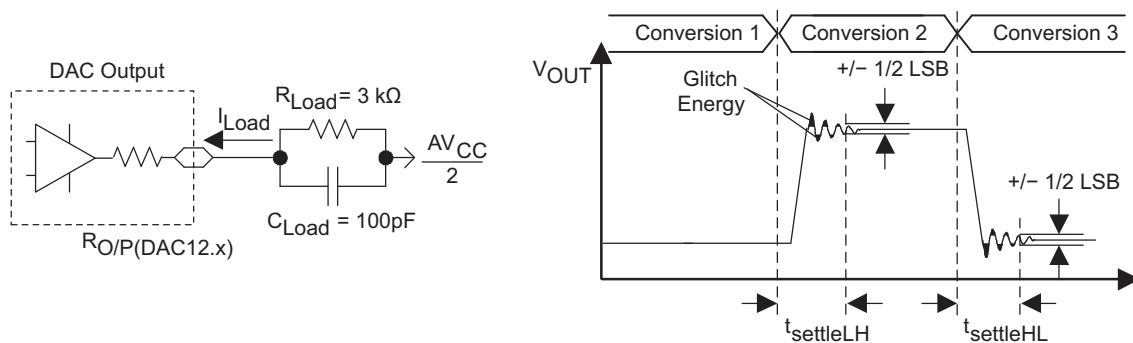
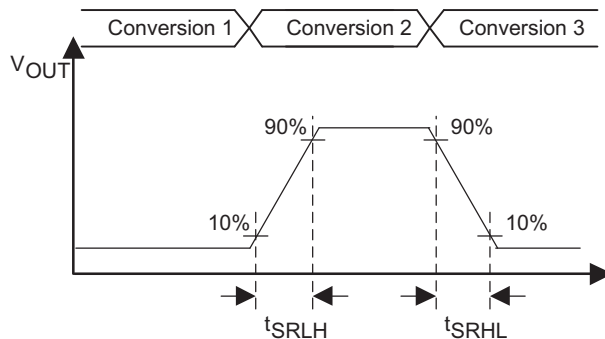

Figure 45. Settling Time and Glitch Energy Testing
Figure 46. Slew Rate Testing
$V_{REF} = V_{CC}$ , DAC12IR = 1 (see Figure 45 and Figure 46), over recommended ranges of supply voltage and operating free-air temperature (unless otherwise noted)
| $t_{ON}$ DAC12 on-time                                                                              | DAC12_xDAT = 800h, Error $_{V(O)}$ < $\pm 0.5$ LSB (1) (see Figure 45)                                                             | 2.2 V, 3 V |     | 60   | 120  | $\mu$ s    |
(1)  $R_{Load}$  and  $C_{Load}$  are connected to  $AV_{SS}$  (not  $AV_{CC}/2$ ) in Figure 45.
(2) Slew rate applies to output voltage steps  $\geq 200$  mV.